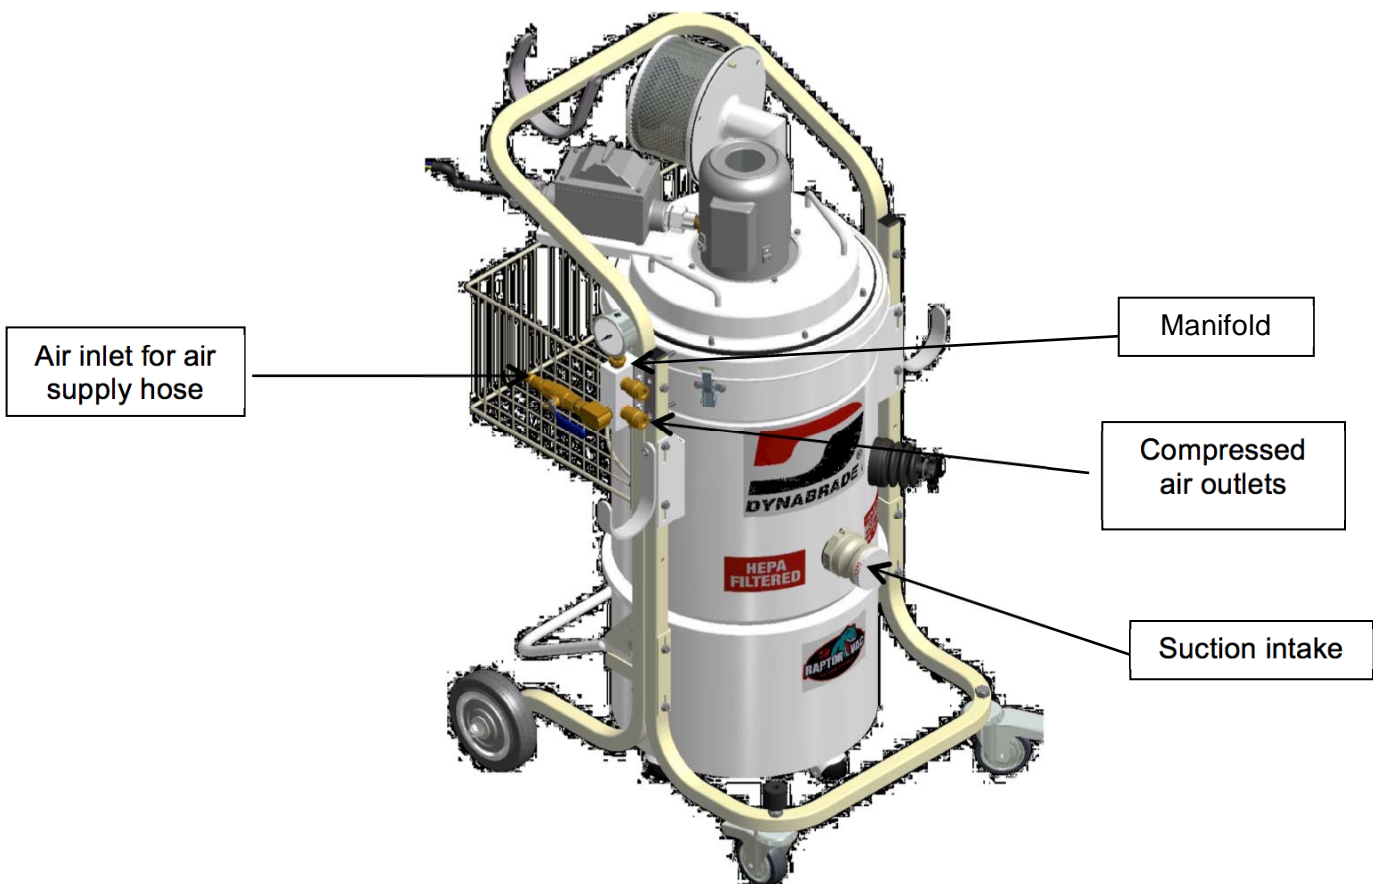

Figure 1
- h. Connect a static dissipating air supply hose to the air inlet on the manifold (see Fig. 1) placed on the side of the vacuum cleaner
- i. Connect one or two suction / air supply hose(s) to the suction intake(s) (see Fig. 1) on the vacuum cleaner. If using only one suction hose with the vacuum cleaner, close the unused suction intake with the storage plug to prevent loss of suction.
- j. Connect the static dissipating suction / air supply hoses to the compressed air outlet on the manifold (see Fig. 1).